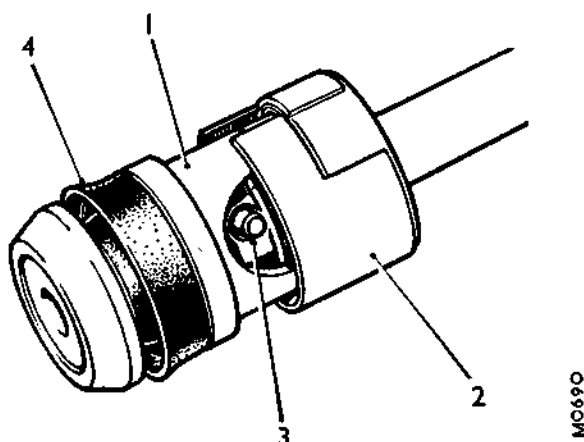

Fig. M.12
14. Prise off the rubber seal from the head of the slave piston. Open the retaining clip with a small screwdriver to expose the connecting pin, which may then be driven out to separate the piston from the rod (see Fig. M.12).